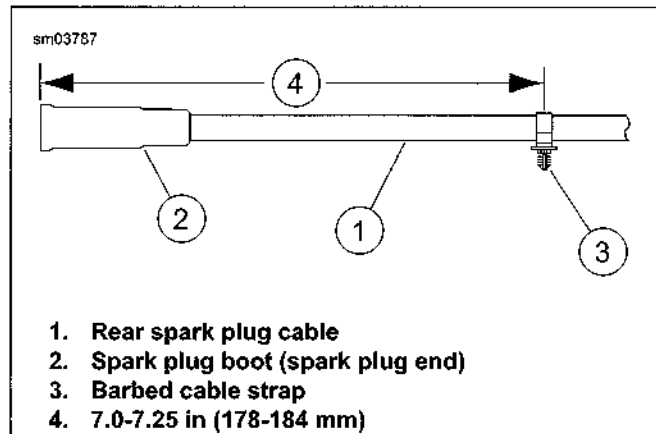

Figure 6-28. Rear Spark Plug Cable and Cable Strap
- a. In trough in right wire harness caddy (1).
- b. Over top of engine sub-harness (3).
4. See Figure 6-28. Install **new** barbed cable strap (3) on spark plug cable (1), 7.0-7.25 in (178-184 mm) from tip of cable boot (2).